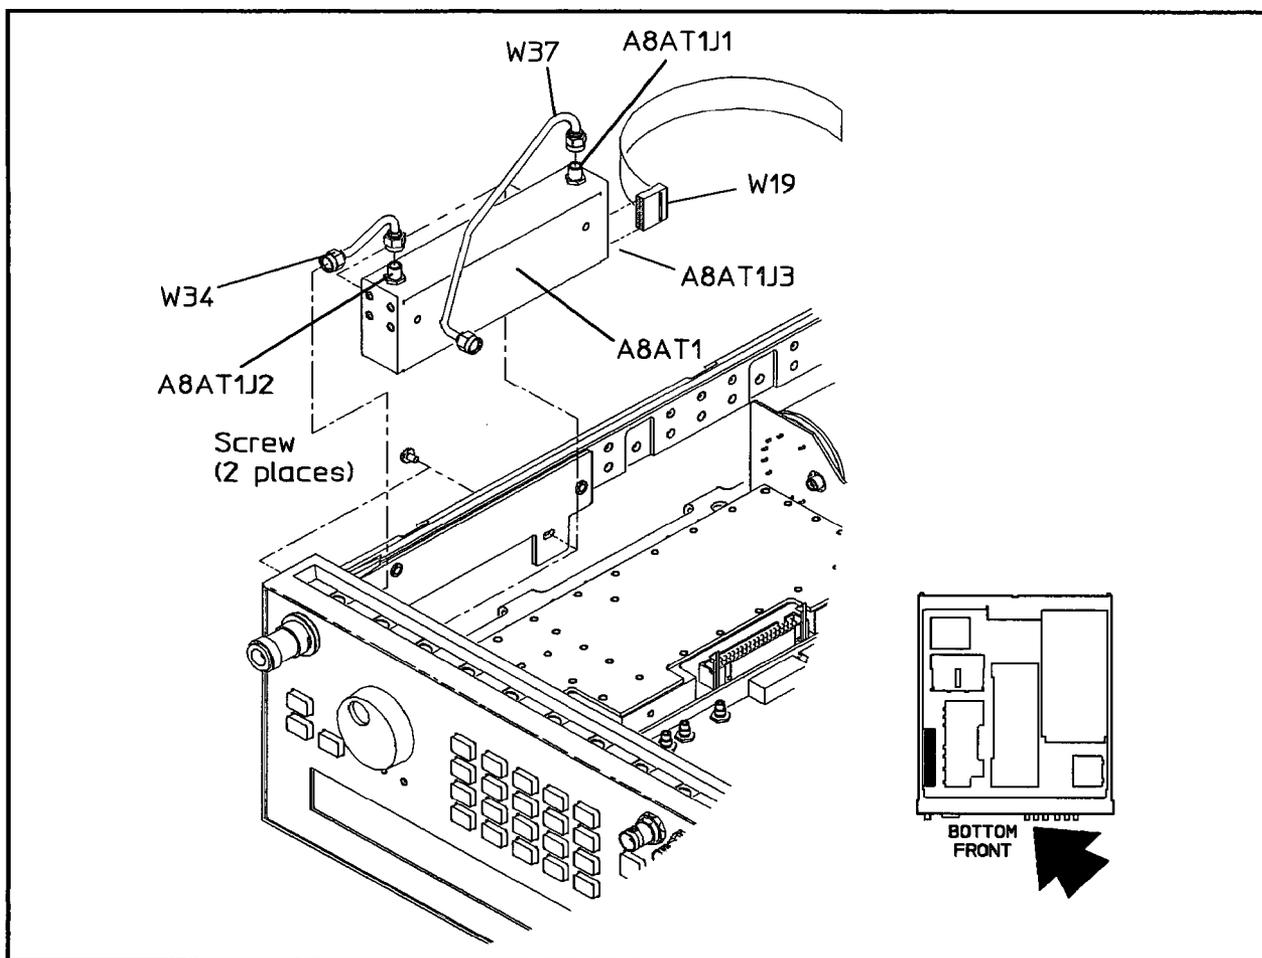

Figure 5-31. Step Attenuator Cables
5. Using a size 10 TORX® screwdriver, remove the two screws from the sheet metal bracket which anchors the step attenuator to the instrument. See Figure 5-31.
See Figure 5-31, and complete the following steps.